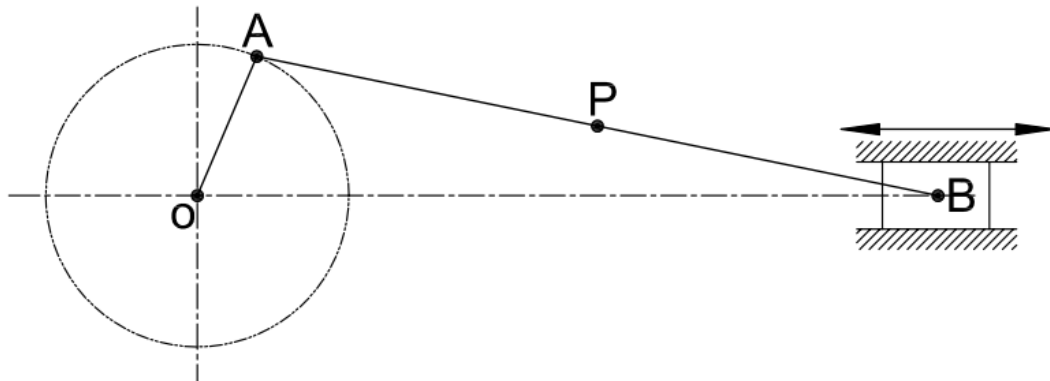

Figure 3
b) Figure 3 shows the slider-crank mechanism of a reciprocating engine which has a crank OA of length 450 mm and connecting rod AB of length 2100 mm. Draw the locus of point P located at the mid-point of AB. Use an appropriate scale.